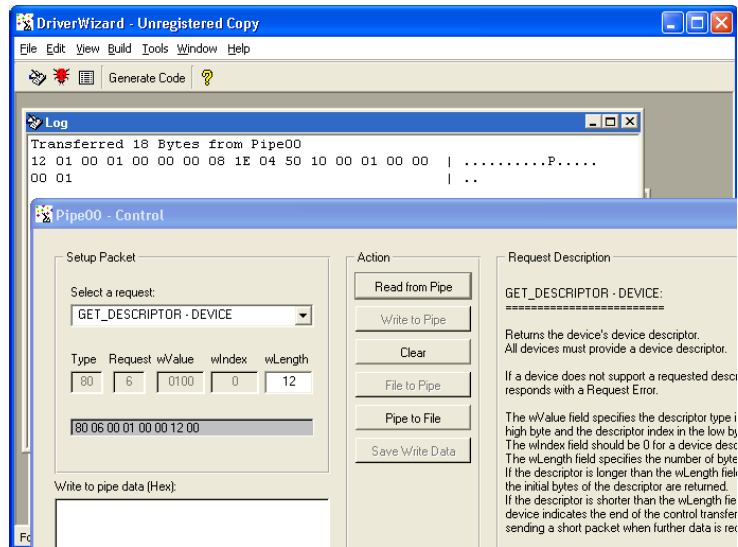

Figure 9.5: Log Screen
3. The device descriptor data retrieved from the device using the standard USB request **GET_DESCRIPTOR DEVICE** can be seen in the DriverWizard log screen (see Figure 9.5).